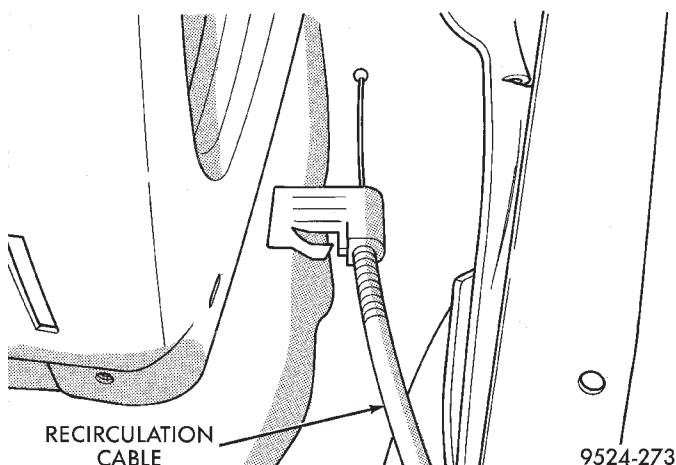

**Fig. 69 Disconnect Recirculation Cable**
- (9) Remove right under panel silencer/duct.
- (10) Disconnect cable flag at right of recirculation housing (Fig. 69).
- (11) Remove cable core end from recirculation actuator lever.